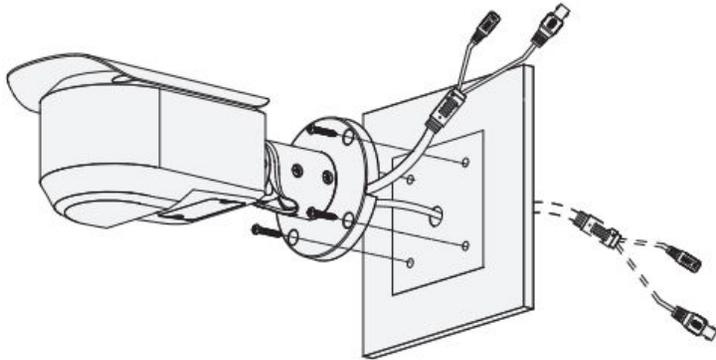

Figure 2-1
**Step 2** Thread the cables through the mounting surface if necessary or use the side exit routing on the base of the camera. Install the mounting screws through the camera base and into the expansion screws. See Figure 2-1.